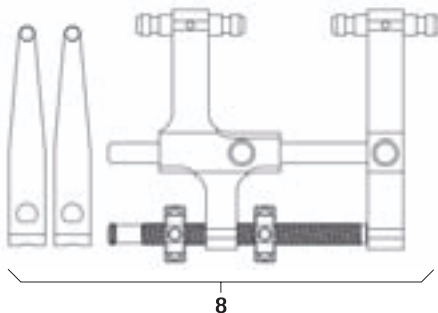

Fig. 14
- Mount distractor **8** with the distraction blades, see Fig. 14.